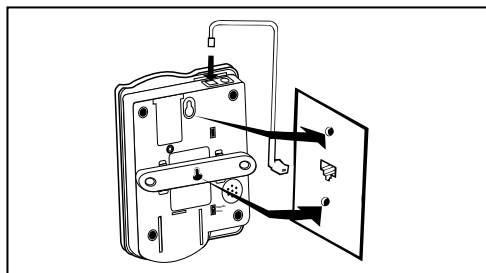

Figure 8 - Wall mounting installation
4. Plug the short phone line cord into the wall outlet as shown in Figure 8.